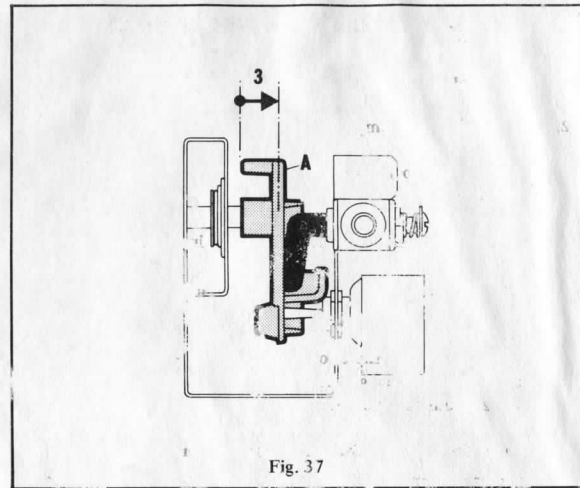

Fig. 37
3. Pull the driving disc "A" outwards (Fig. 37).